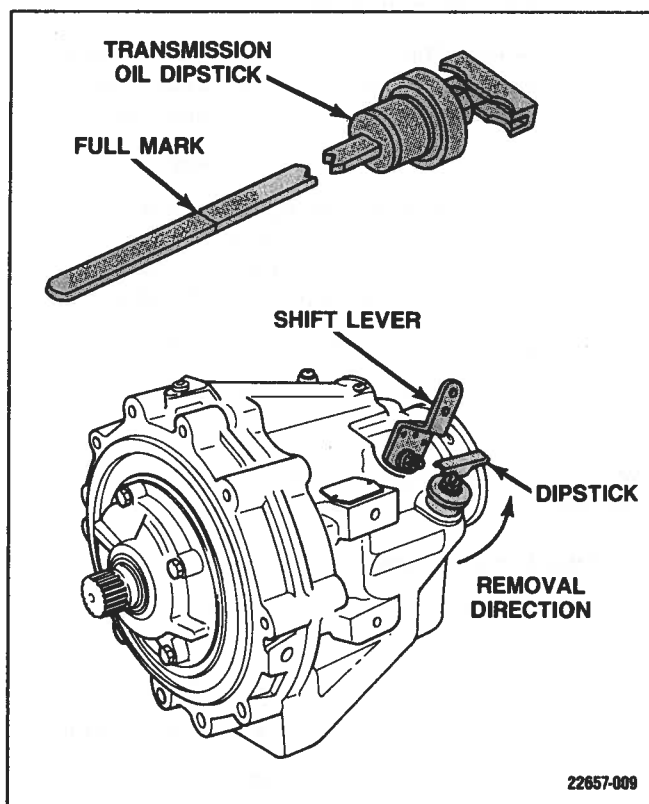

Figure 3-4. Transmission Oil Fill
1. Remove dipstick. Check to ensure that the oil is indicated on the dipstick (Figure 3-4). The oil level may be somewhat over the full mark, as some of the oil from transmission fluid cooler and hoses may have drained back into the transmission. If the level is low, add automatic transmission fluid (ATF) until the level comes up to the "FULL" mark on the dipstick.